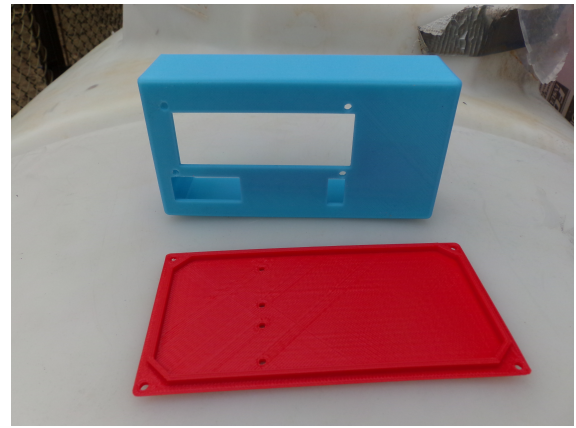

Figure 3: Provided FitBrick enclosure.
Your FitBrick project will comprise your Arduino Nano, SD card reader, LCD shield, and four (4) AA batteries along with a Freescale MMA8451Q 3-Axis accelerometer, which we will provide. It will reside in an enclosure we provide, shown in Figure 3. There will be a small amount of soldering to create interconnections between the Arduino and peripherals. All items in the enclosure will be secured; items floating around inside the box is not acceptable.